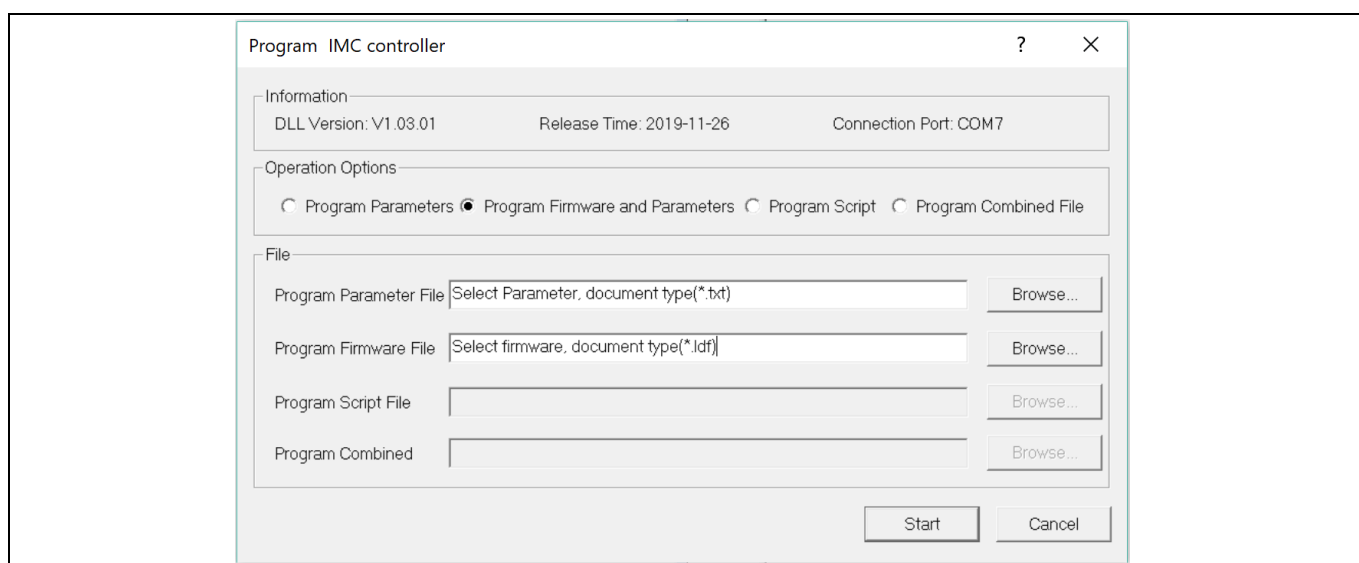

Figure 6 Program the parameters and firmware
- Use the following steps to program the firmware and the parameters' file into the internal Flash memory of iMOTION™ Control IC: click on system page, click “Tools” > “Programmer” and select “Program Firmware and Parameters.” Shown as Figure 6 below. The encrypted firmware is available at “IMD111T MCE Software Package;” regarding the parameters file, browse and select the '.txt' file in the section 2.1.2.